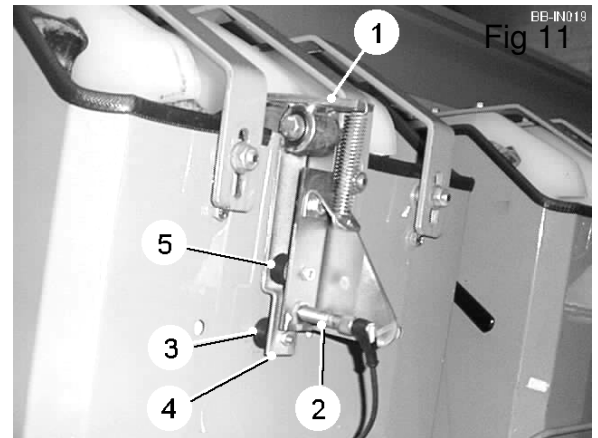

Fig 12
The seed monitors should be adjusted so that the potatoes in the RH cups of each cup belt consistently trip the pivot plates (item 1, figure 12) thus activating the proximity sensors (item 2, figure 12). Initially the bottom stop (item 3, figure 12) should be adjusted so that a gap of approximately 3mm exists between the pivot plate (item 1, figure 12) and the inner face of the tunnel. Loosen the proximity sensor retaining nuts and slowly move the sensor closer to the sensor plate (item 4, figure 12) until it activates. When activated a red light appears on the sensor body. Screw the sensor out until the sensor deactivates and continue for another half turn then retighten the retaining nuts. This setting should leave a gap of approximately 1-2mm between the proximity sensor and the sensor plate. Finally, adjust the top stop (item 5, figure 12) to prevent the sensor plate coming into contact with the proximity sensor. If everything is adjusted correctly the proximity sensor will be activated and deactivated with only a slight deflection of the seed pivot plate (item 1, figure 12).